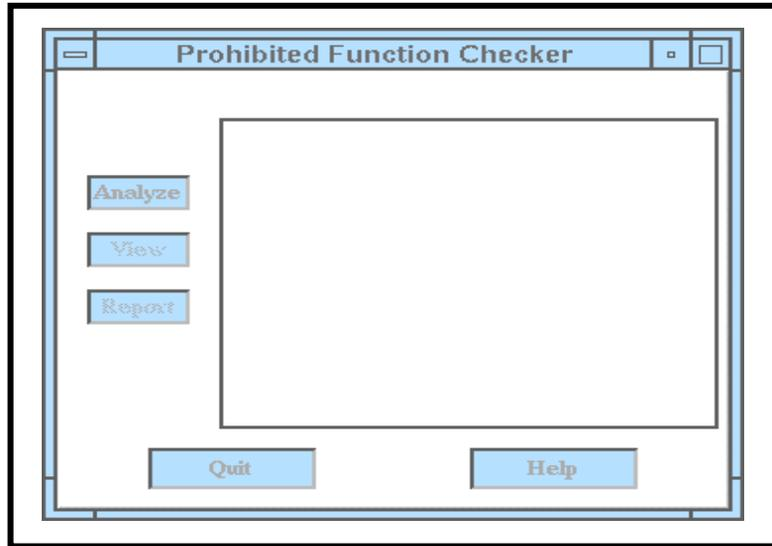

Figure 5. Prohibited Function Checker
- See Figure 5 for a screen snapshot of this step.
The use of certain functions in the PGE is prohibited. The **Prohibited Function Checker** (Figure 5) is used to check C, FORTRAN 77 and FORTRAN 90, language source files for the occurrence of functions that are prohibited in the DAAC production environment.